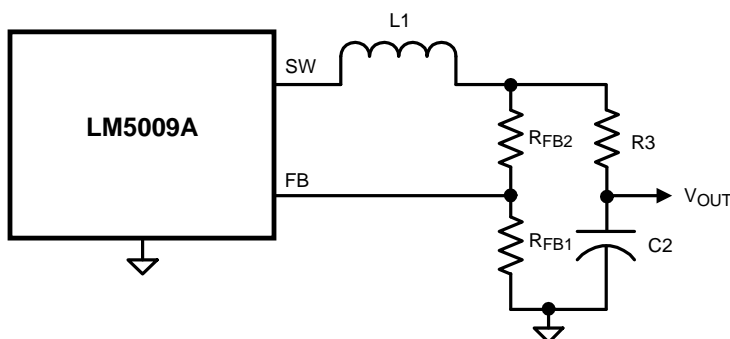

Figure 17. Alternate Minimum Output Ripple
c) Alternate minimum ripple configuration: The circuit in Figure 17 is the same as that in the Block Diagram, except the output voltage is taken from the junction of R3 and C2. The ripple at V_{OUT} is determined by the inductor's ripple current and C2's characteristics. However, R3 slightly degrades the load regulation. This circuit may be suitable if the load current is fairly constant.